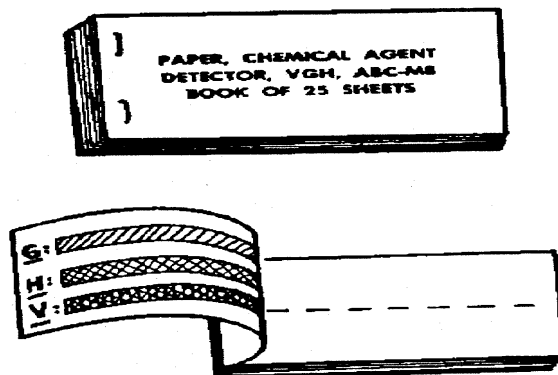

Figure 6-6. M8 Paper
b. Soldiers receive two types of chemical agent detector paper. The ABC-M8 VGH chemical agent detector paper is called M8. It detects and identifies liquid agents. The M9 does not identify agents. M8 detector paper (Figure 6-6) comes in booklets of 25 sheets. Use the M8 paper to detect and identify liquid V-or G-type nerve agents or H-type blister agents. The sheets are impregnated with chemical compounds